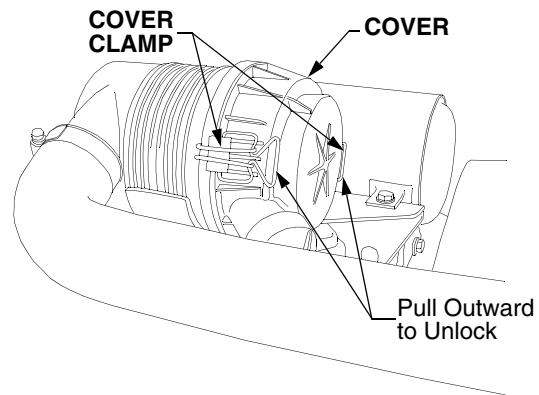

Figure 55
- Unlock the clamps to remove the air cleaner housing cover. See Figure 55.
- Position the cover on the housing. Hook the two clamps onto the rim of the housing and lock the clamps. Refer to Figure 55.